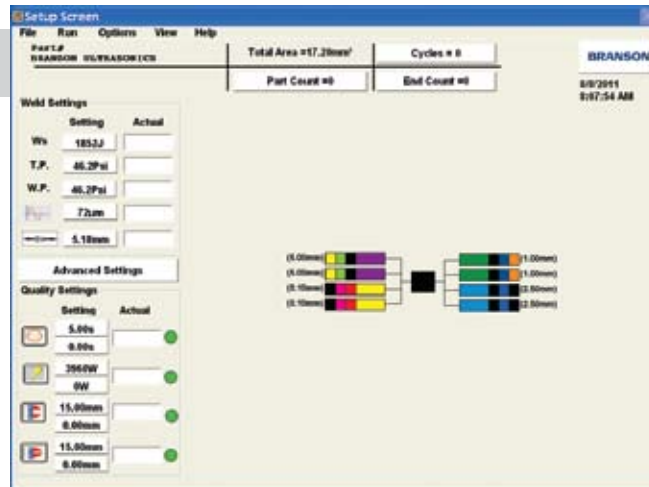

Figure 3
- **15" (381 mm) LCD Touch Monitor** – Enables intuitively easy system navigation with fingertip control. See Figure 3.